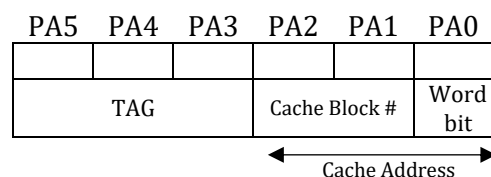
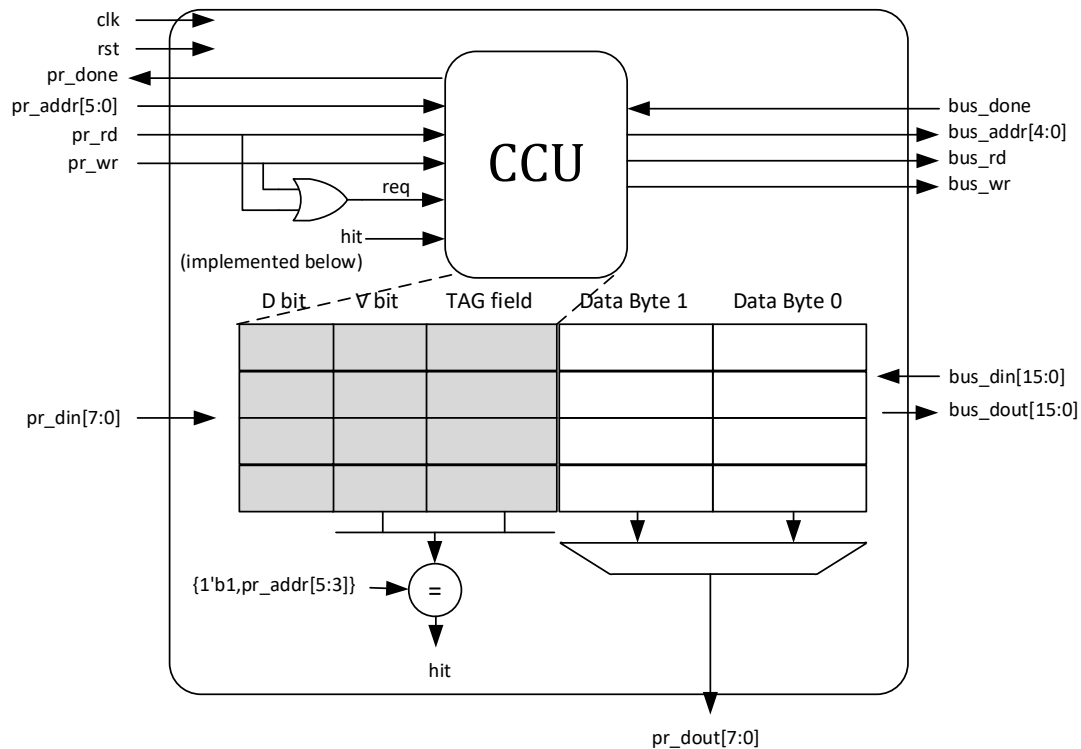
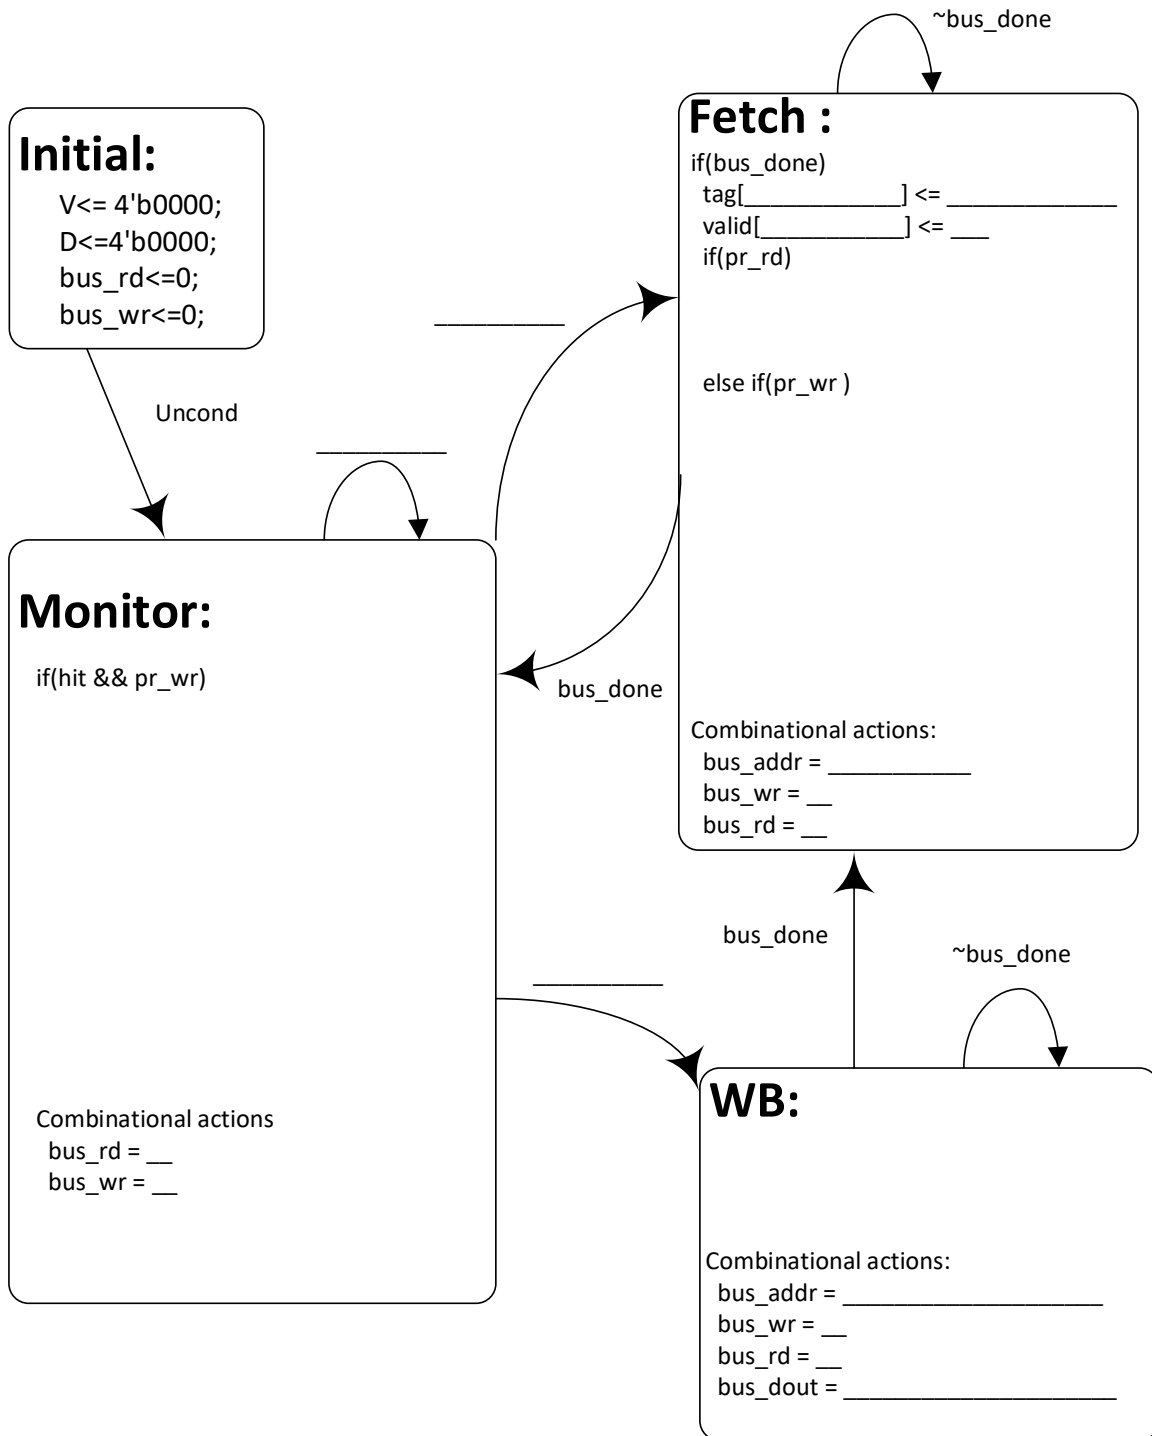

Fig. 1: Physical and Cache Address Format
Fig. 2: Direct-mapped Cache Organization
Fig. 3: CCU State Diagram
In this part, we will emulate the behavior of the single processor memory system. The address space of the main memory for a single core byte-addressable processor is assumed to be 64 bytes. The internal data bus of the processor is 8 bits wide. Thus, 1 "word" is simply 1 byte. The cache block size is 2-bytes (i.e. 2 words) and the processor is enhanced with a direct-mapped cache with 4 blocks (i.e. 8 bytes). As a result, the physical and cache addresses will follow the format as shown in the Fig. 1. To facilitate single access block transfers to and from memory, the main memory is 16-bits wide and always performs a read/write of that data size. Thus, we only need the upper 5 bits of the processor address bus to address the 32 cache blocks (64 bytes) that exist in main memory. Cache organization is demonstrated in Fig. 2.
To check whether the block residing in the cache is the same as the one requested by the processor, the cache is indexed with pr_addr[2:1] (i.e. the 'cblk' field) and then the TAG of the cache block is compared with pr_addr[5:3]. V and D are valid and dirty bits, respectively. C.C.U. stands for Cache Control Unit and oversees coordination between processor and the bus (i.e. main memory). If a block is missed in the cache, the CCU will request the block from the bus and waits until memory provides the data to the cache. When the memory finishes the transaction requested by the core, it sets bus_done signal high for a clock so the cache knows that the transaction is done. The cache that we implement here is a write-back cache; therefore, if a block is dirty in the cache and the processor wants to update it with another block, the dirty block needs to be written in the main memory first. Note: While the valid and TAG bits would generally be stored in a separate TAG RAM, we will just store them as a simple register array in the CCU (this is why those bits are shaded and lines drawn in Fig. 2 to indicate that TAG, V, and D are actually stored in the CCU).
1. Complete the state diagram for CCU as provided in the Fig. 3 using the signals demonstrated for CCU ports in the Fig. 2. **(10 pts)**
The description of the states in the Fig. 3 are as follows.